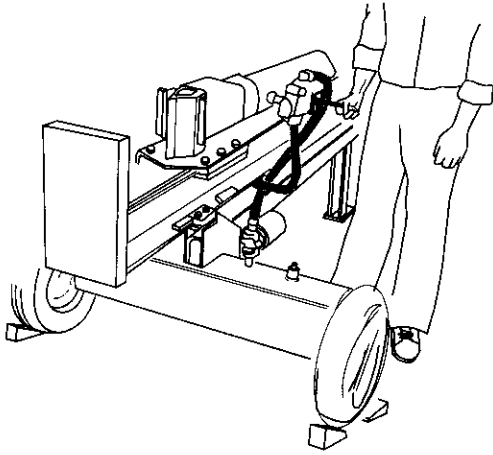

Figure 11
- Stand behind the reservoir tank. See Figure 11. Operate the control handle with your right hand and stabilize the log, if necessary, with your left hand.